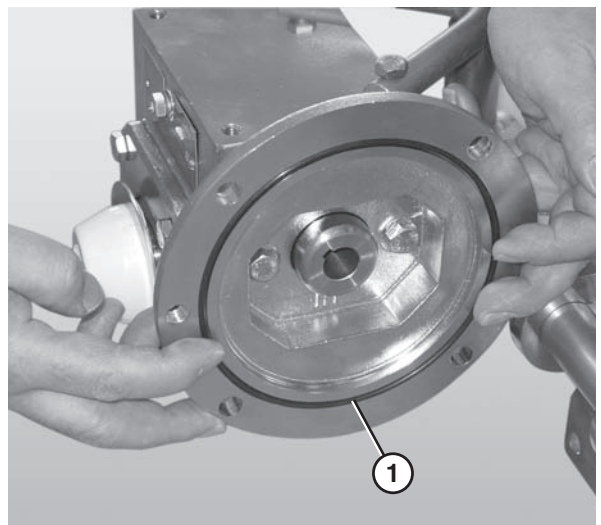

Figure 35
Ensure the O-ring (Figure 35, item 1) and motor output shaft key (Figure 35, item 1) are situated properly before attaching the motor to the gear reducer.